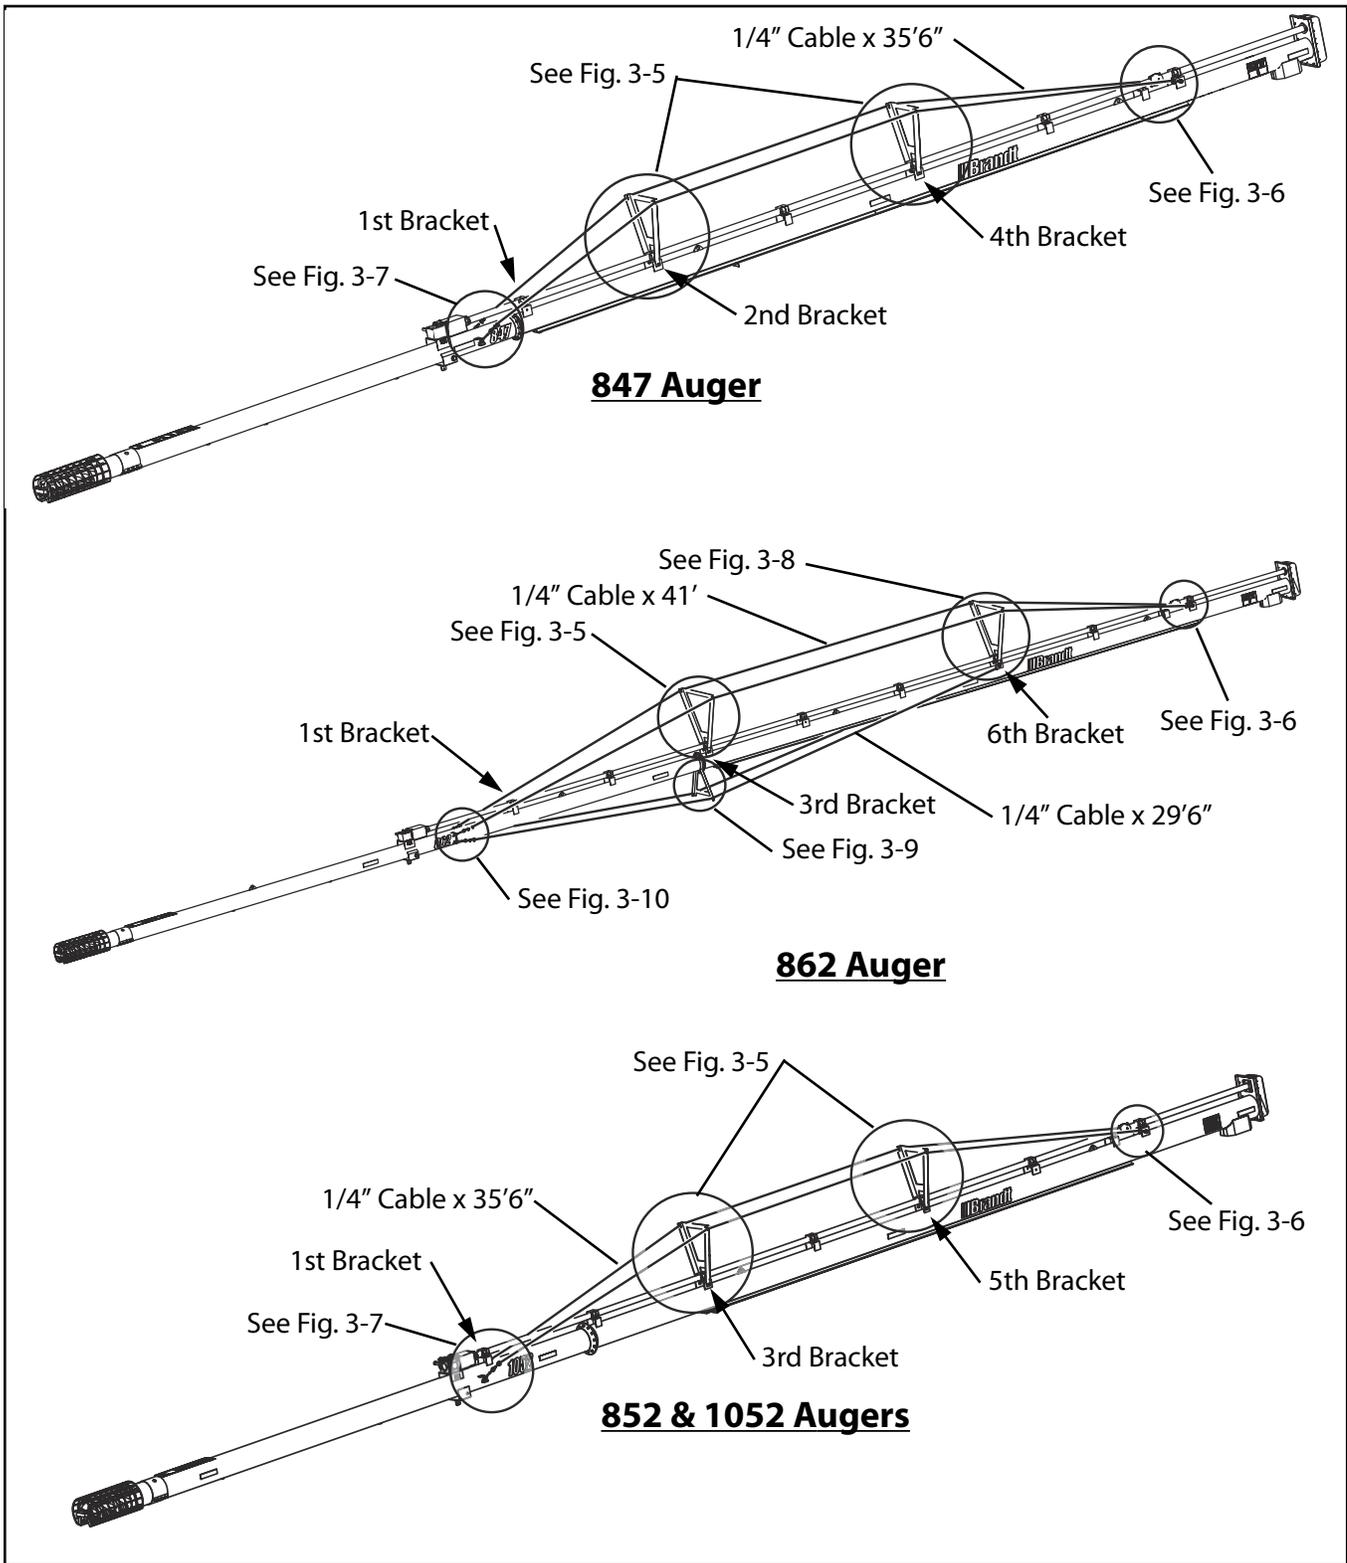
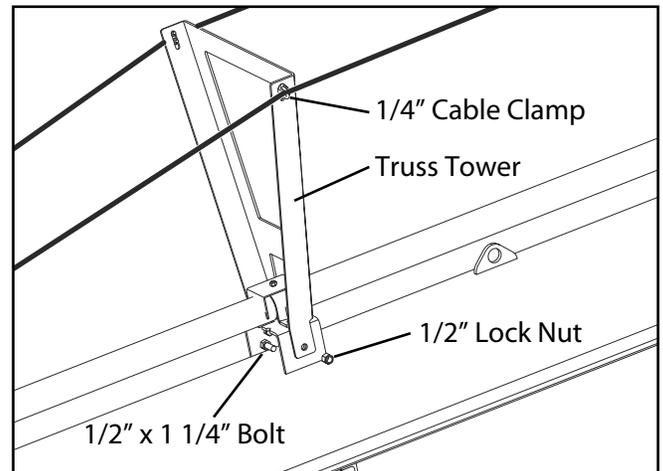

FIG. 3-4. Tube Truss - 847, 852 and 1052
FIG. 3-5. Truss Tower Assembly
3. Install the truss towers on the bearing mount brackets shown in Fig. 3-4. Use two 1/2"x 1 1/4" bolts and lock nuts for each tower. See Fig. 3-5.
6. Mount the truss cables to the truss towers using 1/4" cable clamps as shown in Fig. 3-5. Do not tighten at this time.